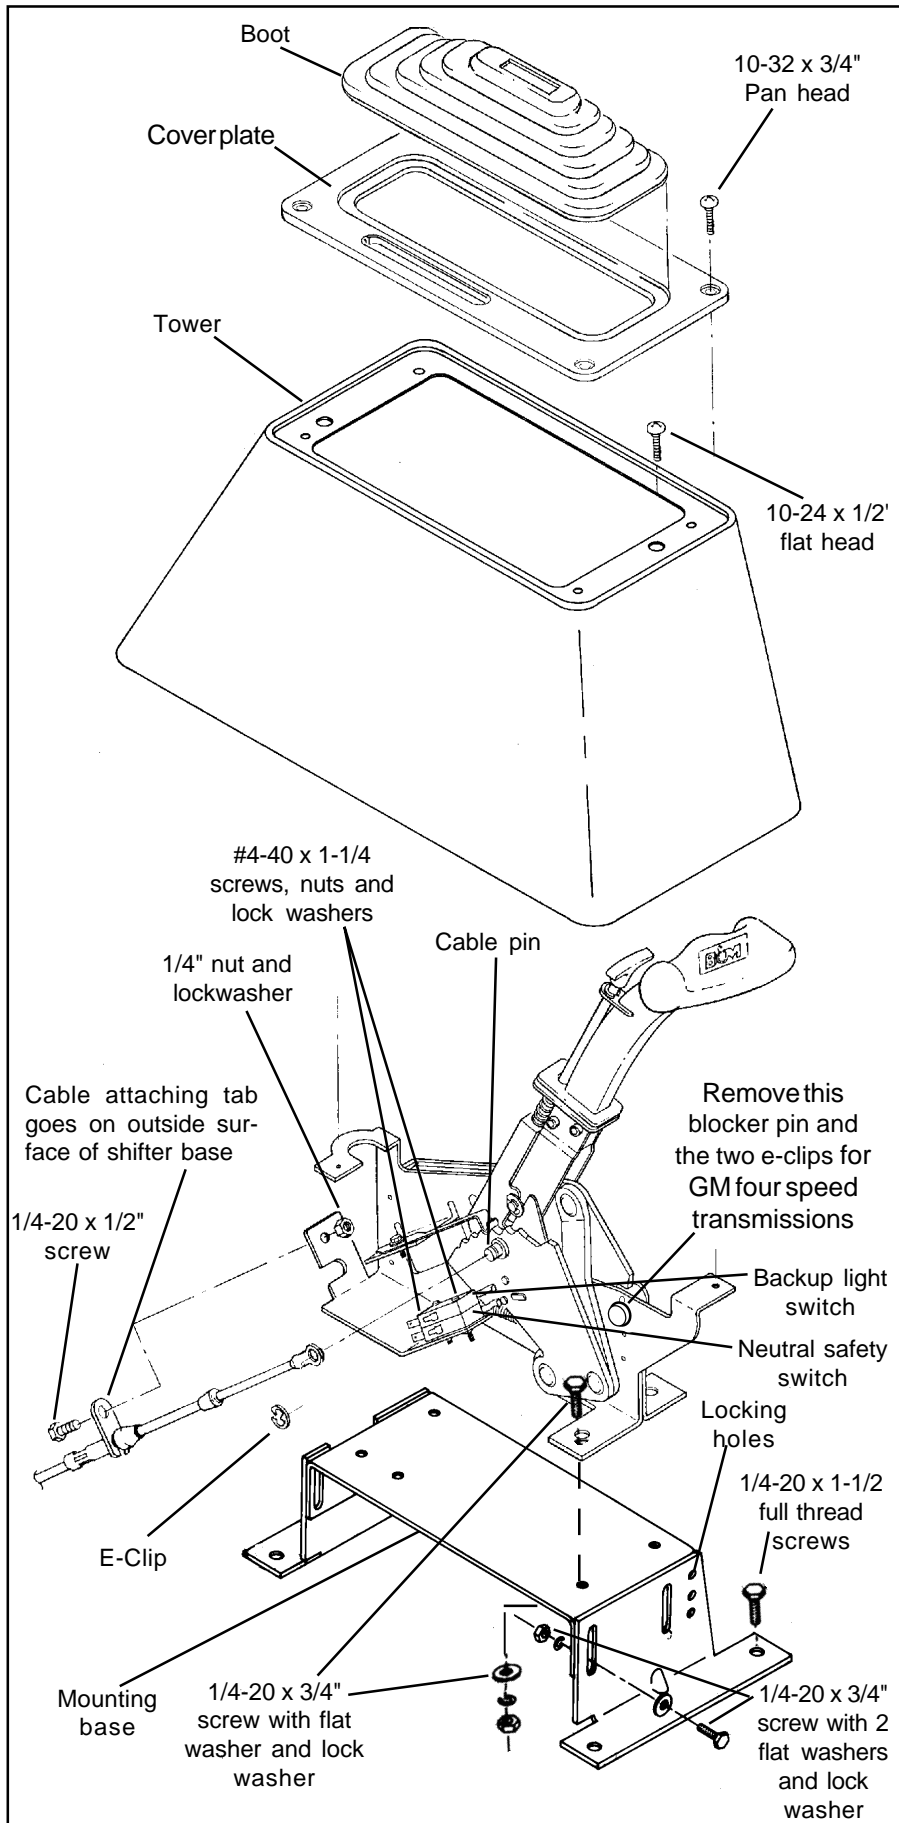

Figure 1
NOTE: If you are installing this shifter with a GM four speed automatic transmission, you must remove the blocker pin and the two e-clips indicated in **Figures 1 and 3**. Removing this blocker pin gives the shifter four forward positions rather than three. For Ford AOD four speed transmissions do **not** remove this blocker pin and the two e-clips, since this transmission has only three forward positions. Also do **not** remove the blocker pin and the two e-clips for three speed automatic transmissions.
STEP 3. Assemble the mounting bracket as shown in **Figure 1**. Be sure that the end plate with the wide slot on top is to the front and that the top plate has the three holes at the front. Assemble the bracket with the four 1/4-20 x 3/4" screws finger tight. Put flat washers on both sides of the brackets and a lock washer under the nut.
STEP 7. Assemble neutral safety and reverse light switches to the bracket using two #4-40 x 1" screws and nuts, as shown in **Figure 1**. **Beware**, over tightening the switch attachment screws will crack the switch housings. Install the switch assembly on the shifter. To adjust the switches, loosen the screws and slide the switches in or out as required, then retighten the screws.
STEP 8. Install the cable on the shifter as shown in **Figure 1**. The cable attachment tab should be bolted to the outside surface of the shifter base using a 1/4" x 1/2" hex screw, lock washer and nut. Install the e-clip that secures the cable to the cable pin.
(the engine will not crank unless these wires are connected together), and the reverse light wires. Disconnect the battery ground cable before beginning to wire the neutral safety and reverse light switches. Reroute the wires to the **B&M Megashifter**. Strip 1/4" of insulation off the wires and install the supplied slip-on terminals. Crimp the terminals onto the wires using a crimping tool or pliers. Connect the neutral safety wires to the **LOWER** switch and the reverse light wires to the **UPPER** switch (See Figure 1). Tape the terminal connections to prevent shorts. Reconnect the battery ground cable, disconnect the coil wire and set the parking brake. Check the switch operation by attempting to start the motor in each shifter position. **The starter must crank only when the shifter is in the Park or Neutral position.** Check the backup light operation when the shifter is shifted to the Reverse position. Adjust the switches if required. Reconnect the coil wire. Go to **Step 29**.
'66-'68: The neutral safety switch will continue to function normally. It will not be necessary to hook up the neutral safety switch wires on the shifter. Disconnect the battery ground cable before wiring the backup light switch. Locate the original backup light switch on the steering column or the console shifter. Run these wires to the top switch on the **B&M Megashifter (See Figure 1)**. Reconnect the ground wire and check the light for proper operation. Adjust the switches on the shifter if required.
'66-'68: The neutral safety switch will continue to function normally. It will not be necessary to hook up the neutral safety switch wires on the shifter. Disconnect the battery ground cable before wiring the backup light switch. Locate the original backup light switch on the steering column or the console shifter. Run these wires to the top switch on the **B&M Light Truck Megashifter (See Figure 1)**. Reconnect the ground wire and check the light for proper operation. Adjust the switches on the shifter if required.